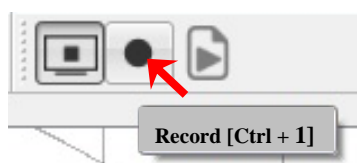

Figure 3-17 Record buttons
- ① Connect UST with Area Designer.
- ② Click record button as shown in Figure 3-17.